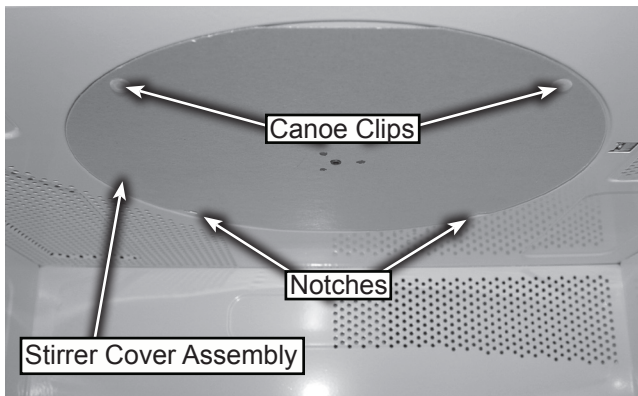

Figure 1
2. Remove the two canoe clips that secure the front of the stirrer cover. These clips are removed by gently prying them from their mounting holes, see figure1.
3. Disengage the Stirrer Cover Assembly notches from the tabs in the microwave top at the rear, see figure 1. The cover will drop and the Stirrer Fan will be accessible, see figure2.